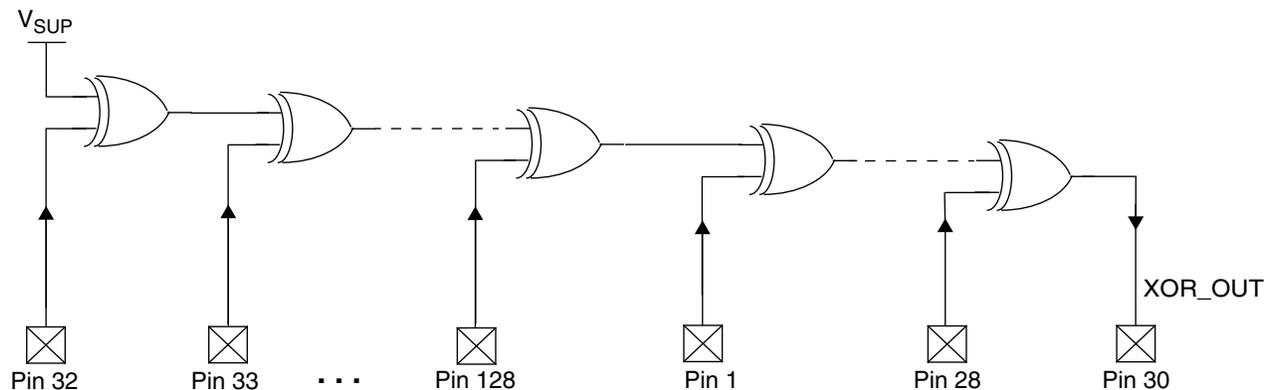

Figure 3. XOR Tree (Simplified Diagram)
In XOR Tree mode, all PC8374L device pins are configured as inputs, except the last pin in the tree, which is the XOR_OUT output. The buffer type of the input pins participating in the XOR tree, is IN_T (Input, TTL compatible), regardless of the buffer type of these pins in normal device operation mode (see Section 1.4 on page 21). The input pins are chained through XOR gates, as shown in Figure 3. The power supply pins (V_{DD3} , V_{SB3} , V_{SS} , V_{CORF} , V_{BAT}), the analog pins (V_{SB5} , REF5V , REF5V_STBY , $\overline{\text{RSMRST}}$) and the not connected pins (NC) are excluded from the XOR tree.